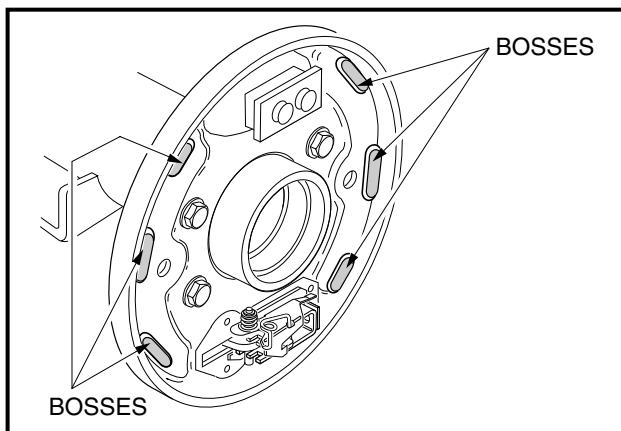

Figure 6-9 Lubricate Raised Bosses
4. Use a small brush to carefully apply a light coat of white lithium NLGI #2 grease (Dow Corning® BR2-Plus or equivalent) on each of the six raised bosses on brake backing plate (**Figure 6-9, Page 6-6**). See preceding **WARNING**.